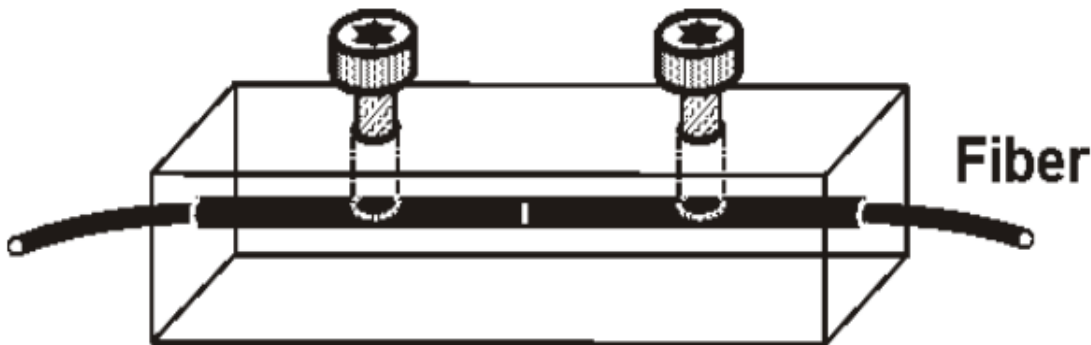

Figure 1 Coupling Setup
14. Connect one end of 3m fiber cable into transmitter module, connect one end of 1m fiber cable into receiver module, and insert free ends of 1m and 3m fiber cable into coupling setup as close as possible (see Figure 1).